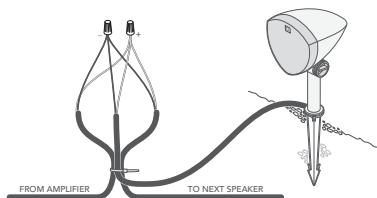

Figure 10
8. Cut the two wires for the left or right speaker (see the tables below) and strip 3/4" of insulation on the exposed ends of the burial wires, then strip 3/4" of insulation from the ends of the corresponding speaker's pigtail (see Figure 10).
9. Create a loop of approximately 10", and use a wire tie to hold the wire loop and speaker pigtail in place to provide strain relief (see Figure 10).